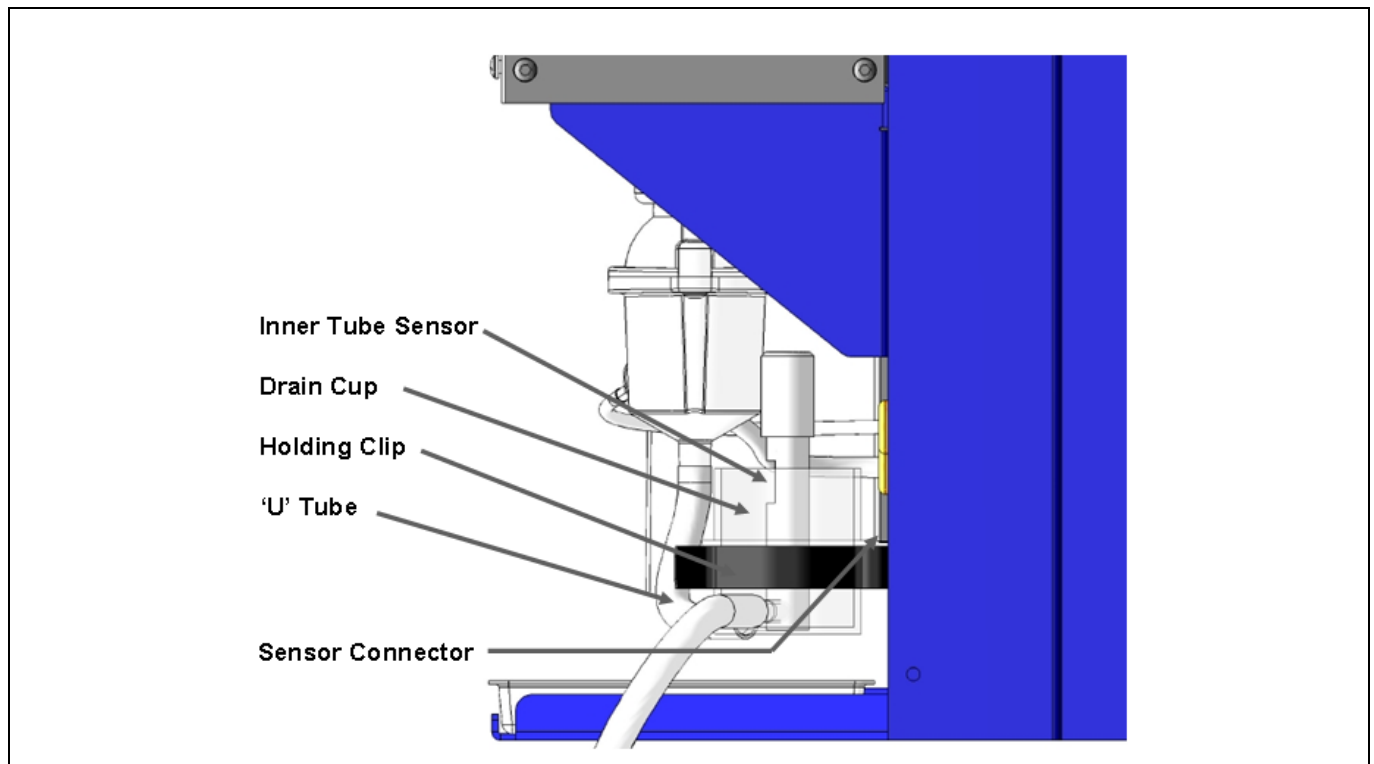

Figure 7.1
The Drain Cup has a sensor that the software monitors during the Start Up cycle to ensure that the “U” tube is filled with water. For the sensor to operate, the water must have some conductivity. Normal tap water will provide the correct level of conductivity. Always be sure that the inner tube is filled to overflowing. See Figure 7.1. The only maintenance needed is occasional cleaning.
- Reattach the “U” tube and waste tube. Fit back onto the holding clips. *Be sure that the top rim of the Drain Cup sets on the top clip so that the inner overflow tube is even with the drain opening of the Mixing Chamber.* See Figure 7.1.